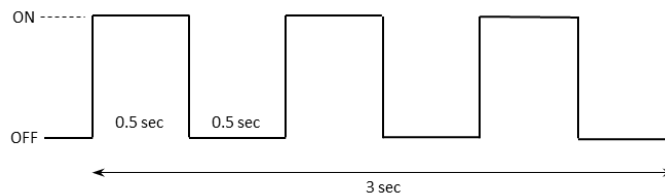

Figure 1-8: The GREEN LED Pattern After the Magnetic Wake-Up/Reset Pattern is Observed
- 1. **GREEN** is toggled ON and OFF every 0.5 sec for 3 sec as shown in Figure 1-8.